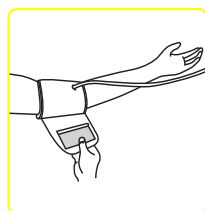

Fig. 4
4. Pull the cuff so that the top and bottom edges are tightened around your arm (Fig. 4).